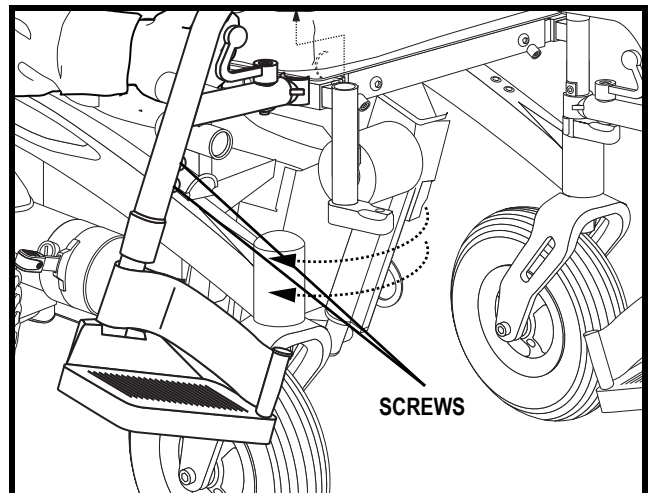

Figure 20. Swing-away Adjustment
1. Remove the screws from the SFR. See figure 20.